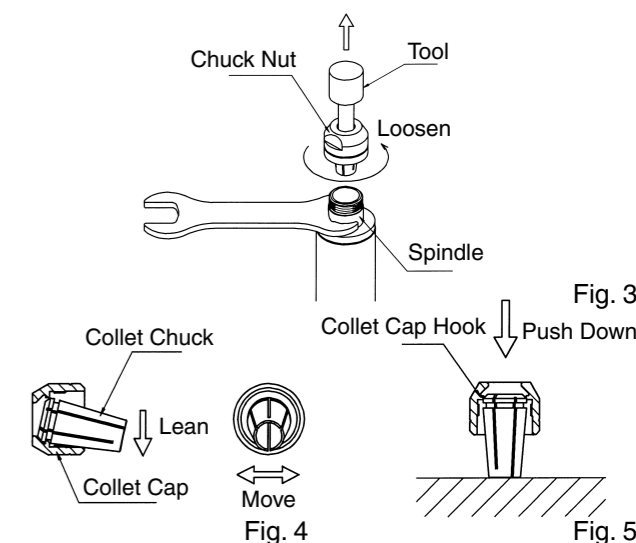

Fig. 5
- Choose a new collet chuck and insert it into collet cap diagonally to match the collet groove and collet cap hook. (Fig. 5)